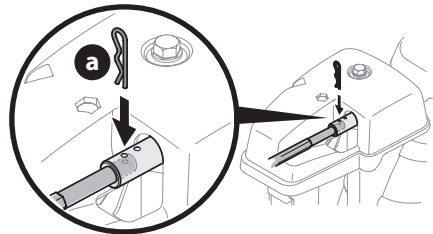

Figure 40
6. Push chute control rod toward the control panel until hole in rod lines up with middle hole in chute control coupler and insert cotter pin (a) removed in Step 1 (Figure 40).